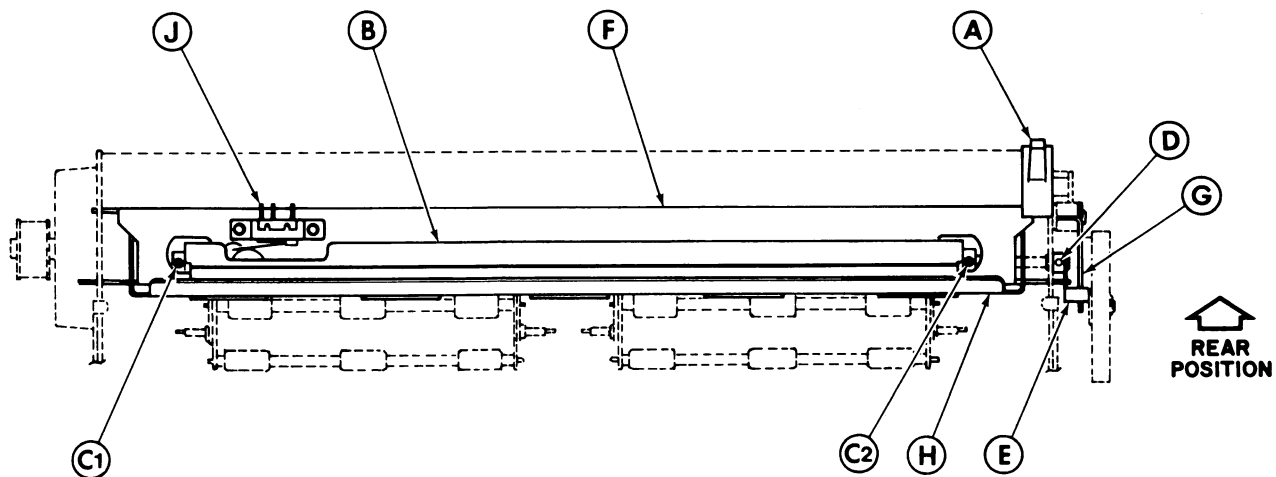

Figure 5-5. TOP PAPER OUT BAIL AND SWITCH ADJUSTMENT
- The paper release actuator (B) also actuates the top paper out bail actuator (E in Fig. 5-5). To avoid interference during this adjustment, it may be necessary to loosen the top paper out bail actuator on its shaft, and then readjust it (see 5.4) after this adjustment has been completed.
Refer to Figure 5-5.